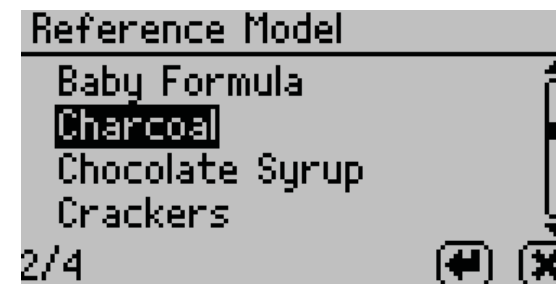

Figure 10 Moisture content model list
10. Scroll through the reference models for the desired product (Figure 10).